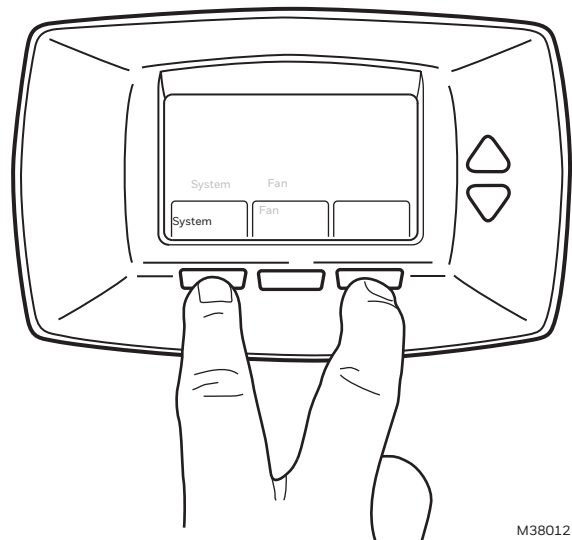

Fig. 33. Entering User Setup. Step 2.
2. Press and hold the two keys on either side of the center key for approximately five seconds. (See Fig. 33.)